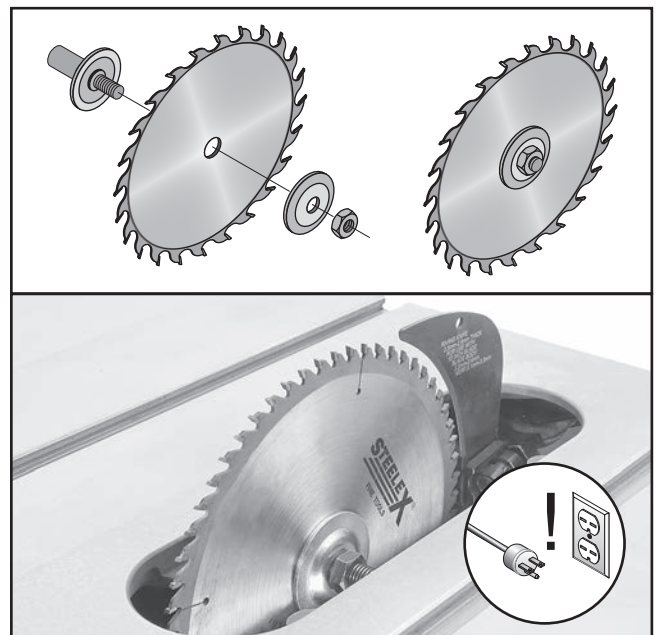

Figure 42. Blade order of installation and teeth facing the correct direction.
4. Install new blade and flange on arbor, as shown in **Figure 42**, with teeth facing toward front of saw. Securely tighten arbor nut.